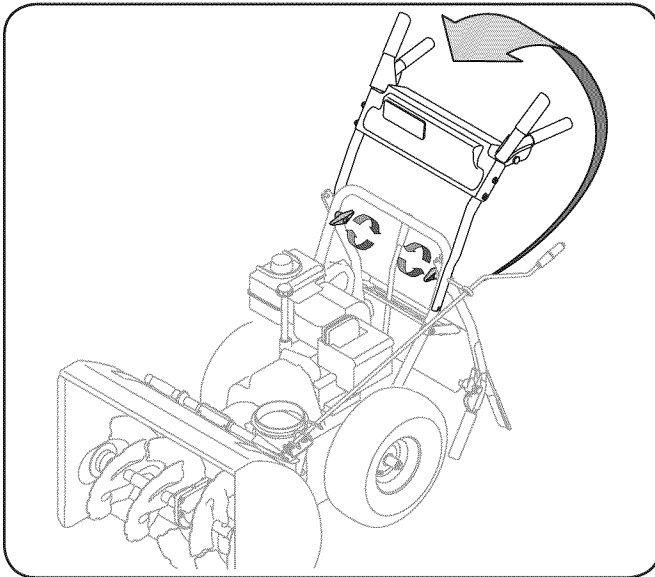

Figure 3-1
1. Observe the lower rear area of the snow thrower to be sure both cables are aligned with roller guides before pivoting the handle upward. See Fig. 3-1.